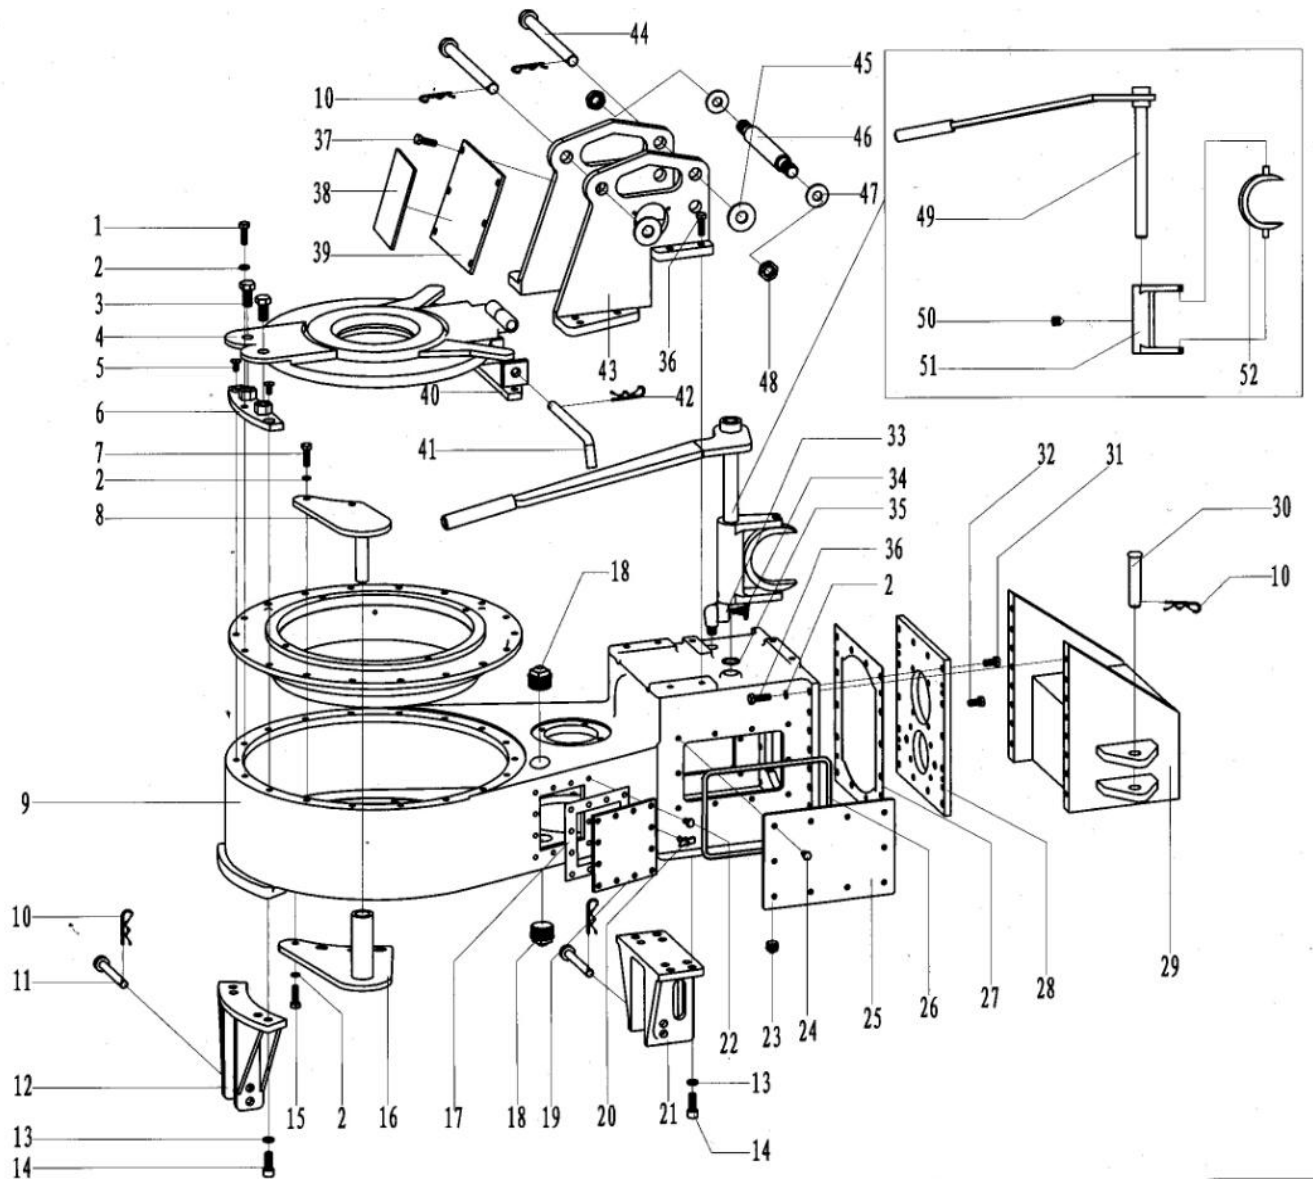

Fig. 16
- 10.3 Split Guide Bell and Accessories (Fig. 16, Table 3)**
10.3 Split Guide Bell and Accessories (Fig. 16, Table 3)